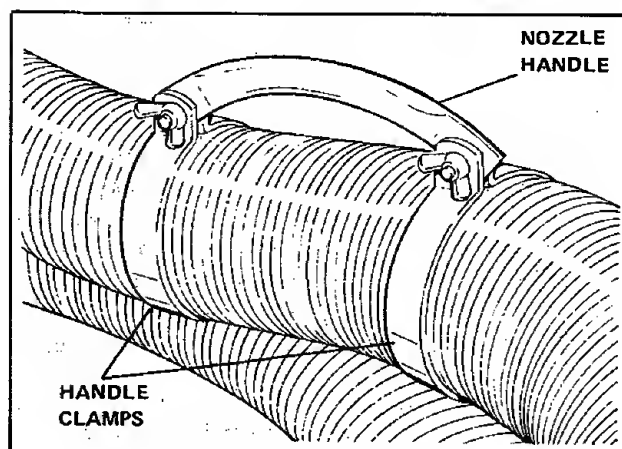

Figure 28. Installing Handle
2. Install the hose handle clamps the desired distance from the pickup end of the hose and attach the handle (Figure 28).